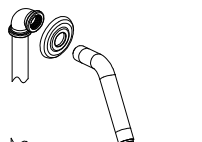

Fig .5
- Install tub spout and shower assembly (see Fig. 5).